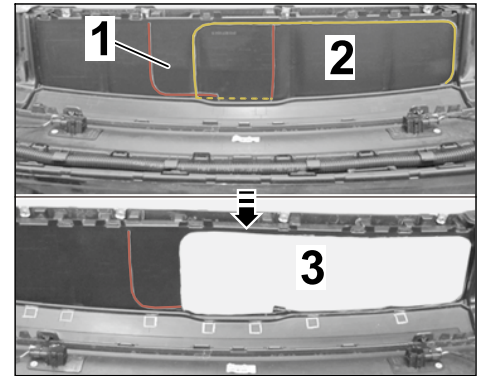

Figure 6
1.9.2 Mark the cut-out for the ball hitch at the impression on the inside of the rear apron (⇒ *Figure 6 -top-*).
1.9.3 Carefully make the cut-out at the marking (⇒ *Figure 6 -bottom-*).